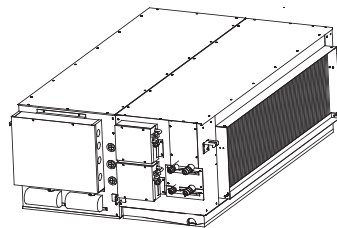

Fig.4-19
- 1 The indoor unit show as Fig.4-19